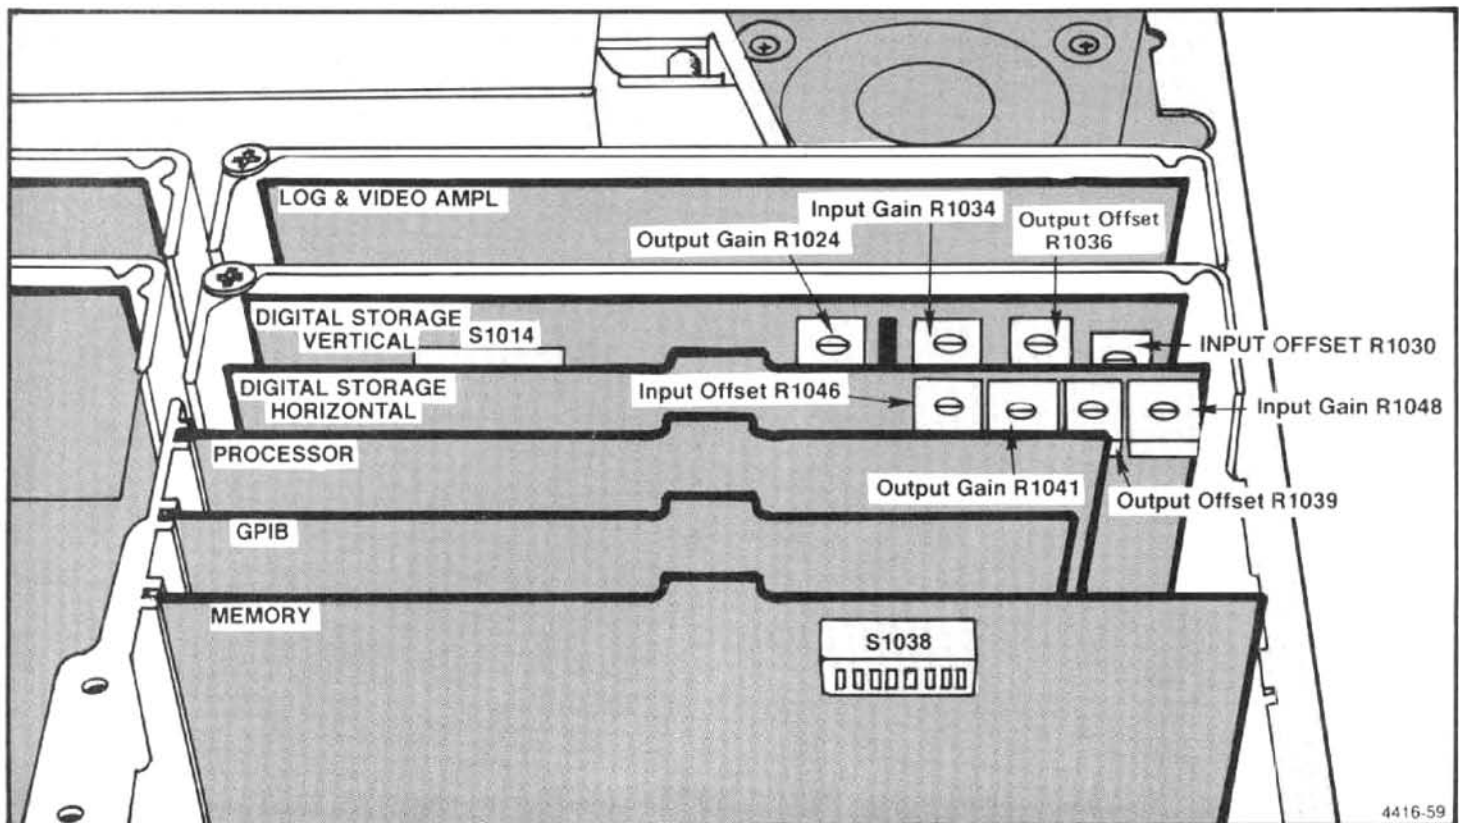

Figure 5-24. Digital storage calibration adjustments.
- (1) adjust Output Offset, R1039 (Figure 5-24) so the left edge of the cursor is at the left edge of the crt (about 0.25 division over-span from the left graticule line);
(2) adjust Output Gain, R1041 (Figure 5-24) so the right edge of the cursor is at the right edge of the crt;
(3) alternately switch VIEW A on and off while adjusting Input Gain, R1048 (Figure 5-24) so the storage signal at the right edge tracks with the non-store signal.
(4) alternately switch VIEW A on and off while adjusting Input Offset R1046, so the stored display at the left edge tracks with the non-store display.
(1) Output Gain R1024 and Output Offset R1036 (Figure 5-24) are adjusted at the factory. In the 494P only, an alternate procedure follows. These adjustments should not be changed; however, if they are disturbed, center the adjustments and Input Gain R1034 before proceeding;
(2) activate 2 dB/DIV display mode and turn PEAK/AVERAGE control clockwise;
(3) using a signal near the bottom of the display, adjust Vertical Offset R1030 (Figure 5-24) so the stored display is the same amplitude as the non-store signal;
e. Adjust the following to match the step waveform to the graticule: (Figure 5-24)
j. Again, while pressing VIEW B repeatedly, adjust Input Gain R1034 on the Vertical Digital Storage board (Figure 5-24) to minimize the amplitude difference between the stored and non-store waveforms.
m. Press VIEW B repeatedly and adjust Input Gain R1048 on the Horizontal Digital Storage board (Figure 5-24) so the horizontal position of the stored signal matches that of the non-stored signal.
When B—SAVE A is selected, the expression implemented is $(B - \text{SAVE A}) + k$, where k is a constant set by the input data for an 8-to-4 line encoder, U1015. Each bit will move the reference level about 0.2 minor division. Normally, the reference level is set at the center graticule line; however, it can be set anywhere within the graticule area by the setting of an 8-bit binary switch, S1014 (Figure 5-24). The MSB (switch #8) shifts the display about five divisions, switch #7 half this amount, etc. The following procedure sets the reference level.